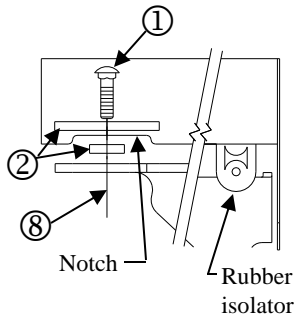

Figure 2
①	Qty. (6)	Carriage bolt 7/16-14 X 1.50 GR5	⑤	Qty. (4)	Spacer, small
②	Qty. (4)	Spacer, large	⑥	Qty. (4)	Lock washers
③	Qty. (2)	Conical washers	⑦	Qty. (4)	Flat washer
④	Qty. (6)	Hex nuts 7/16-14	⑧	Qty. (2)	Pull wire 7/16 (not shown)
- Trim heat shield around the notch at the attachment hole. See Figure 2.
- Install spacer (Item 2) between hitch and frame. Both sides. See Figure 2